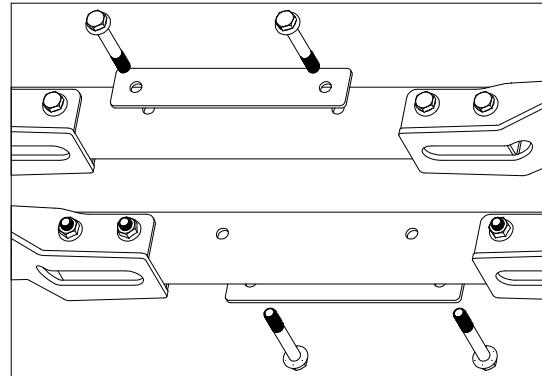

Figure D1: View of cross members.
- Prepare center mounting hardware.** Locate four 5/8" x 4 1/2" flange bolts and the two washer plates. Pass two bolts into each washer plate. Pass the bolts into the cross members so that the bolt threads are sticking out into the area where the center will install, see Figure D1.